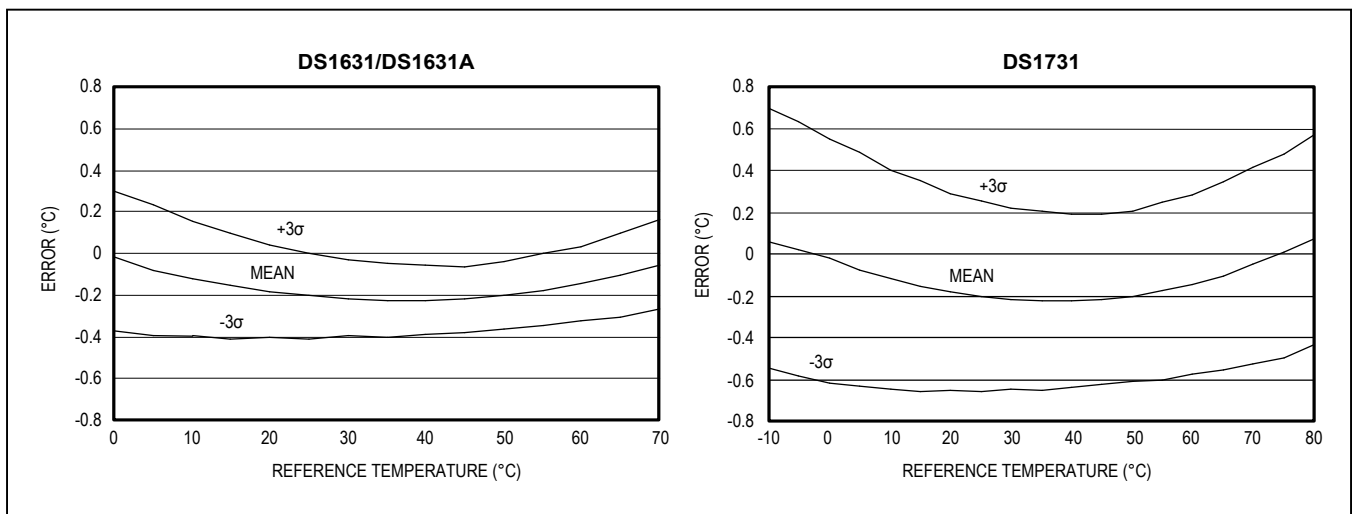

Figure 2. Typical Operating Curves
**Note 2:** See Figure 2 for Typical Operating Curves.